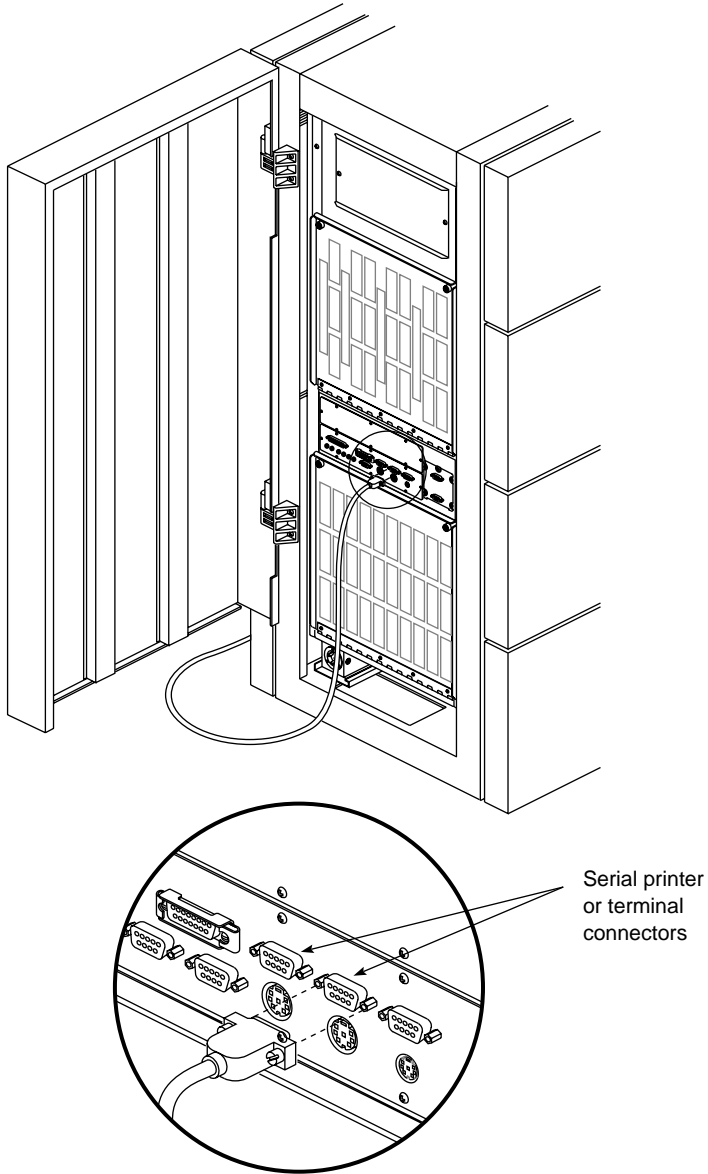

Figure 4-9 Connecting a Serial Printer or ASCII Terminal
4. Attach the free end of the printer or terminal cable to one of the serial connectors on the main I/O panel, as shown in Figure 4-9.
4. Attach the connector on the other end of the cable to one of the 9-pin serial connectors on the main I/O panel (refer to Figure 4-9).